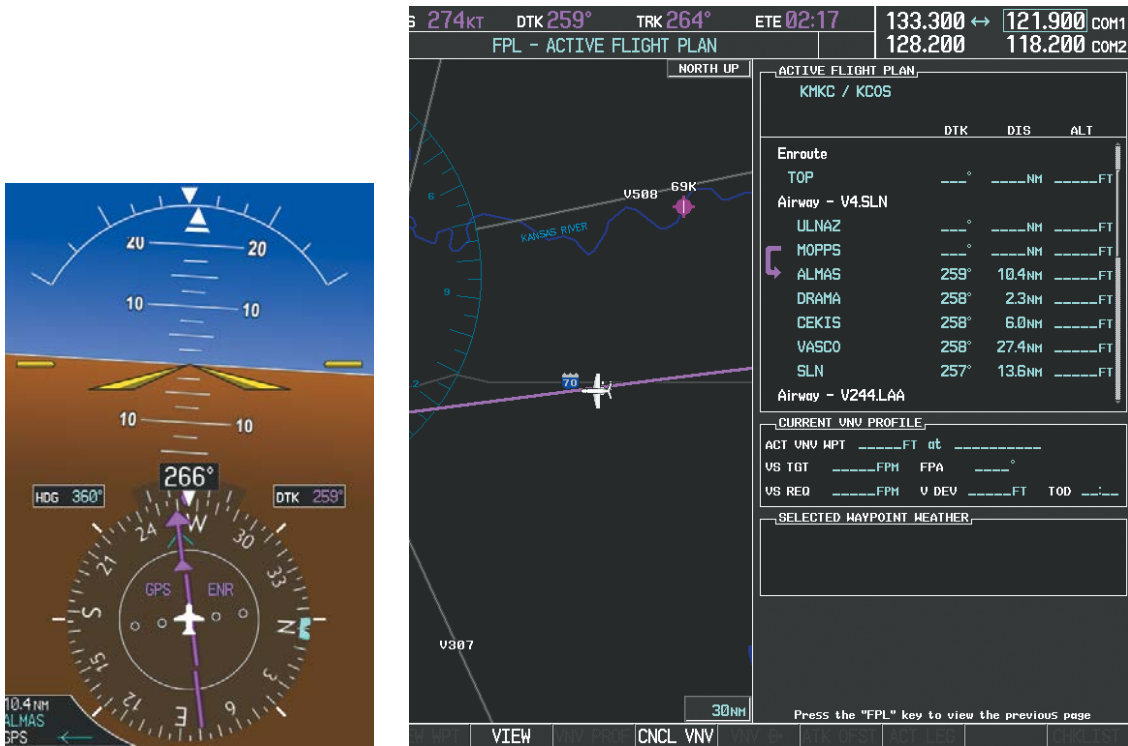

Figure 5-124 Turn on to Active Leg
7) As the CDI approaches center, the aircraft turns onto the active leg as seen in Figure 5-124.